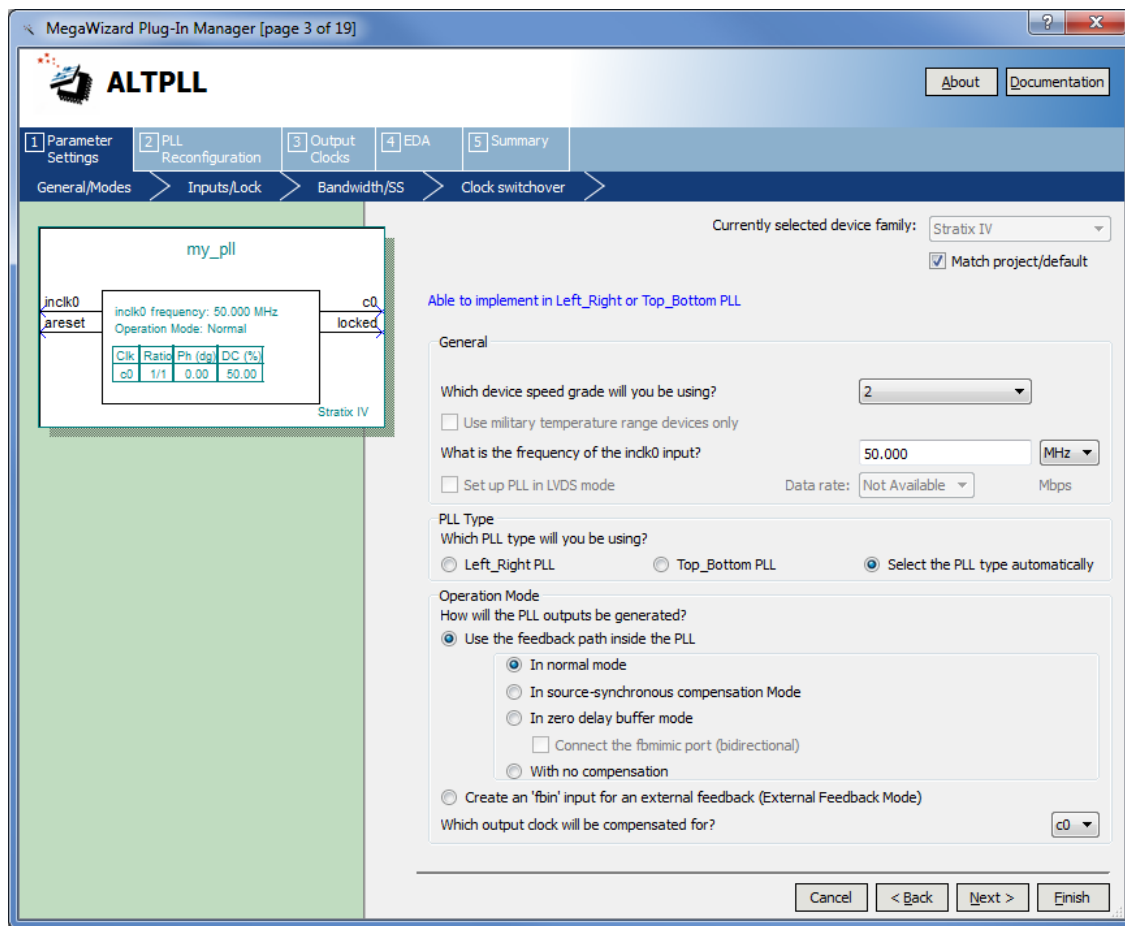

Figure 14. Settings for General/Mode section.
4. Under the **Parameter Settings** tab, set **What is the frequency of the inclk0 input** to 50MHz as shown in Figure 14 and click **Next** to go to the **Inputs/Lock** section.